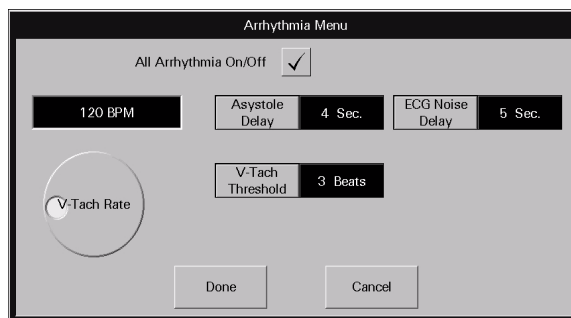

FIGURE 9-41 Arrhythmia Menu Dialog Box
1. Select the All Arrhythmia On/Off check box button in the Arrhythmia Menu dialog box (shown in FIGURE 9-41) to enable or disable arrhythmia analysis for a Telepack device.